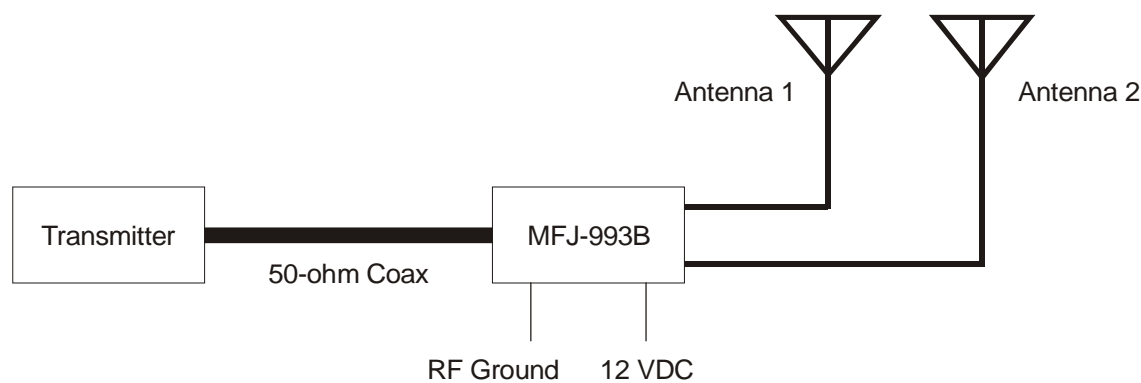

Figure 1. Installation Block Diagram.
2. Install the tuner between the transmitter and the antenna. Use a 50-ohm coaxial cable (such as RG-58) to connect the transmitter (or amplifier) to the connector marked TRANSMITTER on the rear of the tuner. See Figure 1 on page 3.